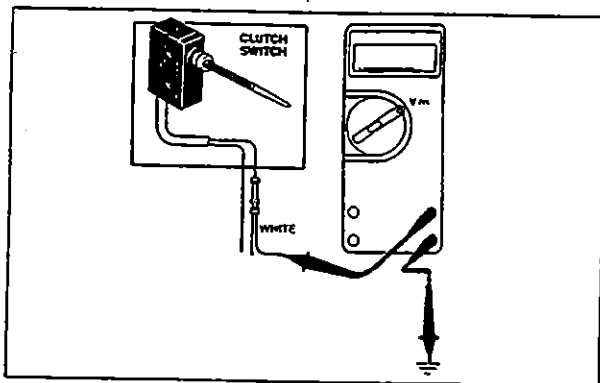

Fig. 1.1.14
**Correction:** Connect the negative (-) probe to the common ground point and the positive (+) probe to the white lead in the main harness (Fig. 1.1.14). Energize the system. With the clutch engaged (pedal up), VOM should cause a reading of 5 volts. If these readings are not obtained, check adjustment of clutch switch. Switch should actuate in the top travel portion of the pedal. Readjust if necessary.